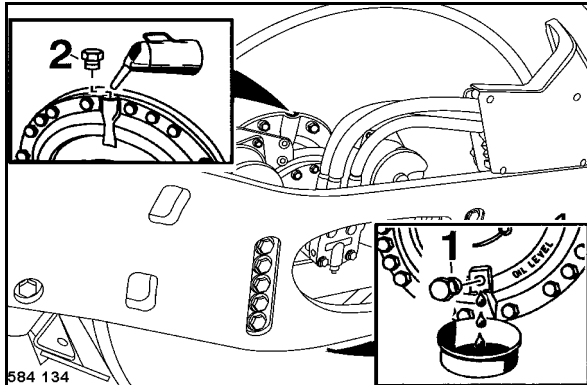

Fig. 163
- Unscrew oil level inspection plug (1) (Fig. 163) on the drum and fill in oil through the filler opening (2), until it starts to drip out from the level inspection bore.
- Screw oil filler (2) and level inspection plug (1) back in tightly.